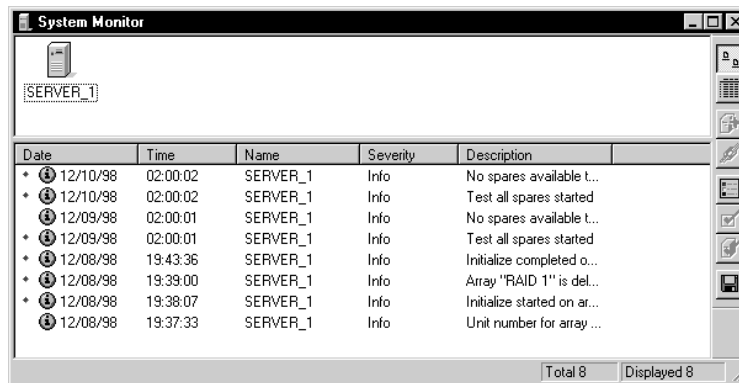

Figure 3-2. Ssystem Monitor Window
- 2 Click the **Detail View** icon  to display detailed information about the system in the top part of the system Monitor window, as shown in Figure 3-2 on page 3-8.
- 1 Click  to open the System Monitor window. Event notifications appear in the bottom part of this window, as shown in Figure 3-2.